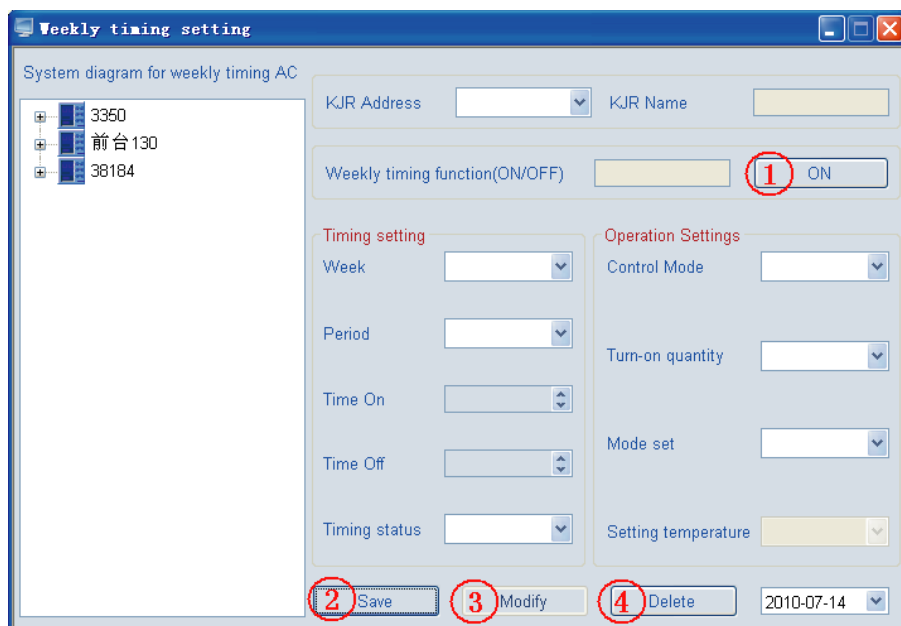
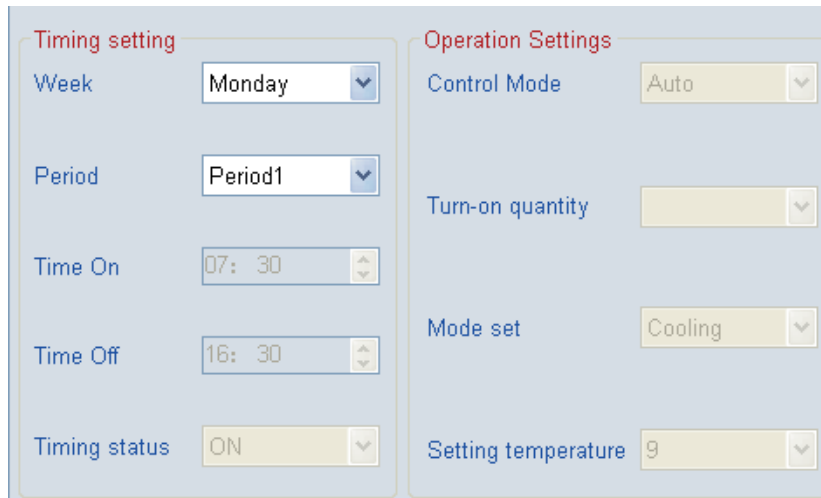

Fig.4-29
Fig.4-33
①Click “Weekly timing set” a window as Fig. 4-29 would pop up——finish the weekly schedule management setting, each wired controller represents a refrigeration system; and the existing wired controller is a wired controller has already been configured in the system.
- e. Save (See the ② key in the Fig.4-29) —— Save the current settings or the modified settings.
f. Modify(See the ③ key in the Fig.4-29) — Press this key the parameter of selected period become changeable, and then click “Save” . Press the key again, all parameters in this period become unchangeable. See Fig. 4-33.